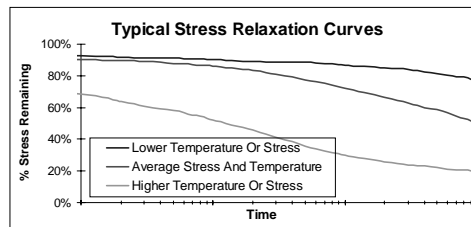

Figure 1. Stress relaxation curves.
**Stress relaxation** can be plotted as the percent stress remaining versus time (see Figure 1). Reading the curve from left to right the initial stress would be 100% when the time equals zero. However, because the curves shown are plotted on a logarithmic scale, there is no zero point. As the time increases, the amount of stress remaining will fall. At higher temperatures, the rate of decrease will be more rapid. Additionally, a higher initial stress level will induce faster relaxation. Generally, if the initial stress level in the material is less than 10% of its yield strength, stress relaxation is not a concern. Between 30% and 80% of the yield strength, there is only a small increase in the rate of stress relaxation. Beyond 80%, the stress relaxation rate increases dramatically.